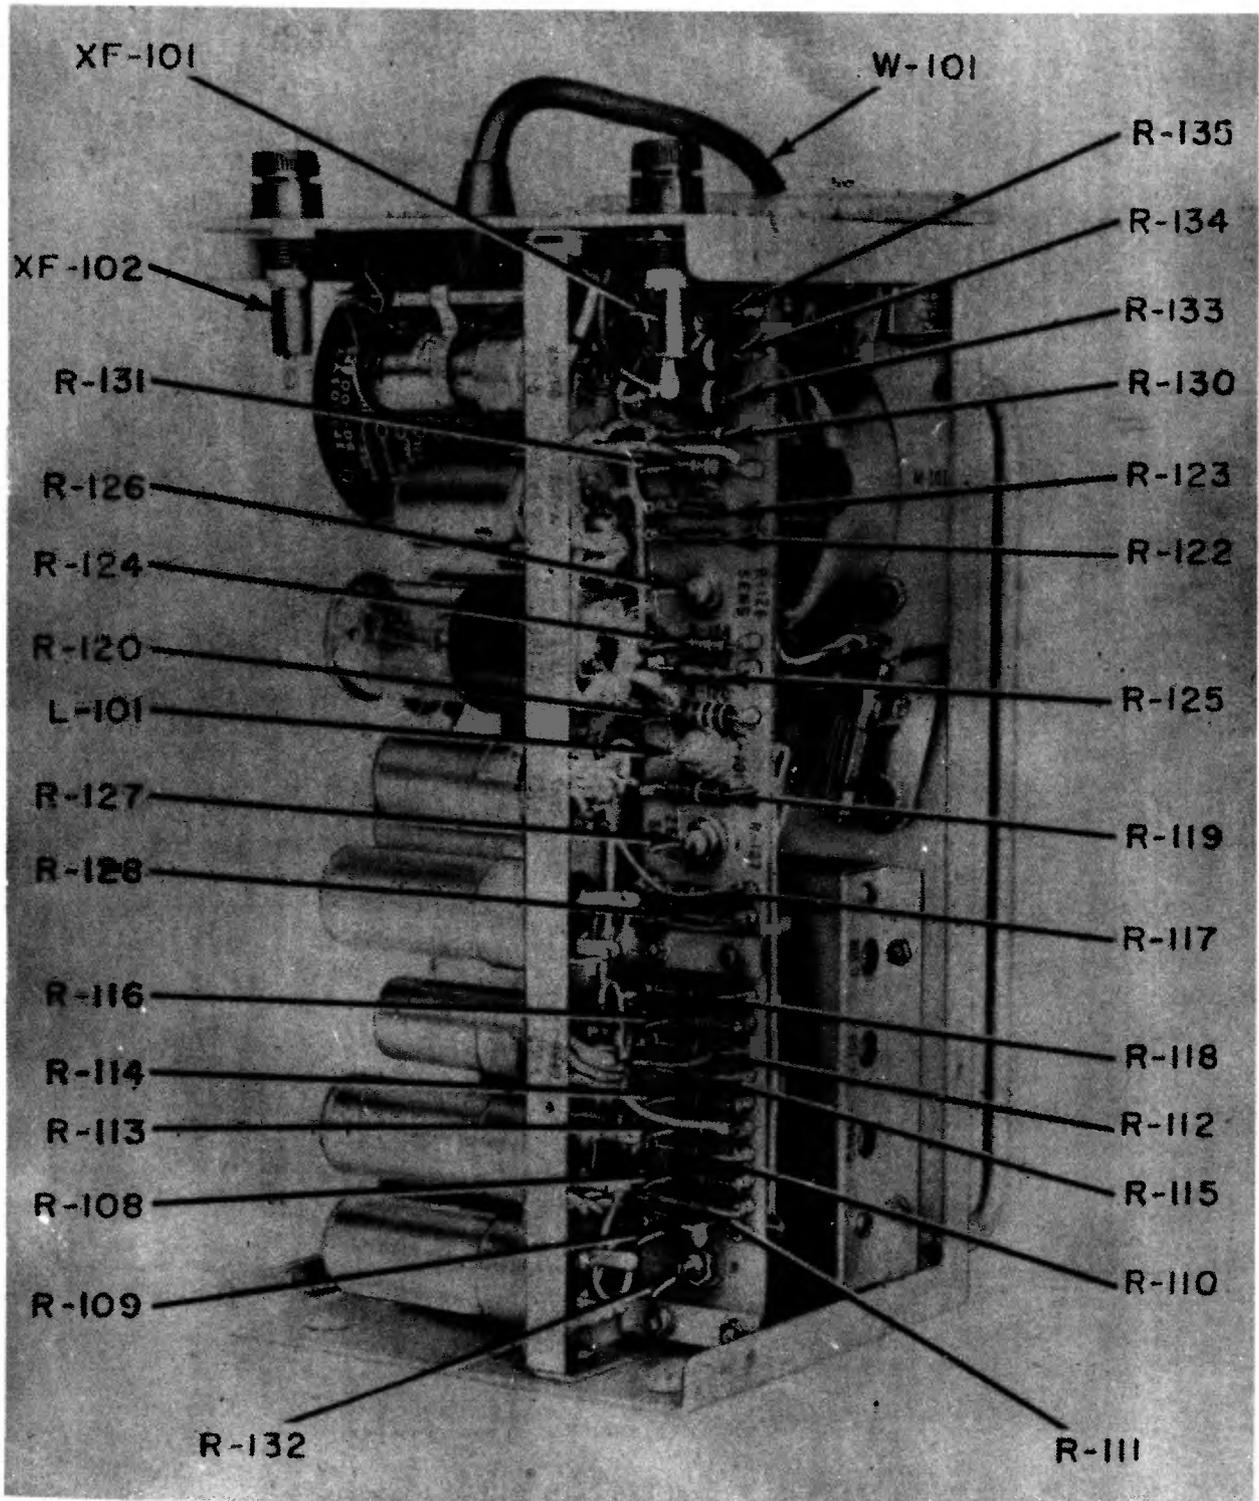

Figure 5-3. Electronic Multimeter ME-6D/U, Rear View
If steps (9) and (10) do not produce the meter indications of .05 volt at the low end of the meter scale, this is an indication that the instrument is inaccurately calibrated. The procedure for recalibrating the instrument, by accurately setting SENSITIVITY control R-126 and ZERO SUPPRESSION control R-127 is explained in paragraph 6-2b(16) thru (21) below. (Figure 5-3 shows location of these adjustments.)
(11) With the RANGE SELECTOR still at its .05 V. position apply a .005-volt $\pm 1\%$ signal from the signal generator. This signal should produce a .005-volt indication, at the low end of the Multimeter scale.
(12) Rotate the RANGE SELECTOR to its extreme counter-clockwise .005 V. position, and apply the same .005-volt $\pm 1\%$ signal from the signal generator that was used in step (11), above. The Electronic Multimeter should indicate a precise full-scale .005 volt deflection.
(13) If the signal source is capable of producing an output of .0005 volt, $\pm 1\%$, keep the RANGE SELECTOR at its extreme counter-clockwise position, and apply the .0005-volt signal from the generator. This signal should produce a .0005 volt indication, at the low end of the Multimeter scale.
(14) The tests specified in paragraphs (6), (8), (10) and (12) should be repeated using the following frequencies 15 cps, 1000 cps, 100 kc and 250 kc, if proper equipment is available.
(15) The above procedure provides an accurate and thorough performance check of the Electronic Multimeter ME-6D/U for the frequency range from 15 cps to approximately 250 kilocycles per second. Discrepancies in excess of $\pm 3\%$ in the performance described above suggests the need for adjustment of the SENSITIVITY control R-126 and ZERO SUPPRESSION control R-127. The procedure for adjusting SENSITIVITY and ZERO SUPPRESSION is as follows:
(16) Place the POWER switch S-102 in its ON position, and allow at least ten minutes for the instrument to reach thermal equilibrium.
(17) Apply a test signal of .05 volt a-c, within the frequency range of the equipment (preferably 1000 c.p.s.) to INPUT and GND. terminals E-101 and E-102.
(18) Rotate RANGE SELECTOR S-101 to the .05 V. position.
(19) The meter pointer should indicate a full-scale value of .05 volt. If this indication is not obtained use a screwdriver to adjust SENSITIVITY control R-126, until full-scale indication is obtained. This adjustment is available on the resistor board after removing bottom cover of the meter housing. (See figure 5-3.)
(20) Rotate the RANGE SELECTOR clockwise to the .5 V. position. The meter pointer should now indicate .05 volt, at the low end of the scale. If this indication is not obtained, use a screwdriver to adjust ZERO SUPPRESSION control R-127 until the indication is .05 volt at the low end of the scale. This adjustment is also available on the
resistor board after removing bottom cover. (See figure 5-3.)